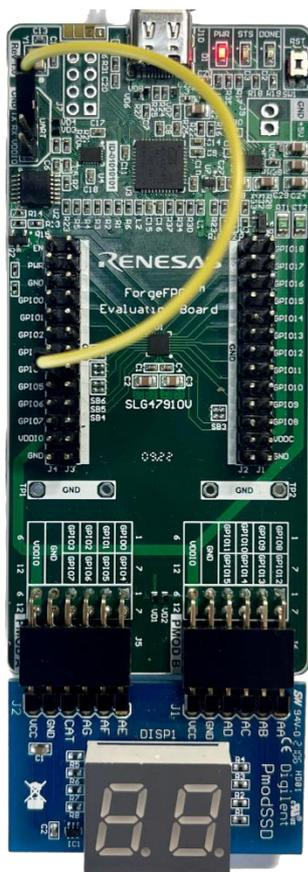

Figure 8: UART Connection on EVB
12. To send the data from the UART to the Pmod, we need to use the inbuilt UART Terminal. The EVB has a connection for the UART. The user needs to connect the **TX within the UART** on the board to **GPIO4** for the UART Terminal to work. (See Figure 8)